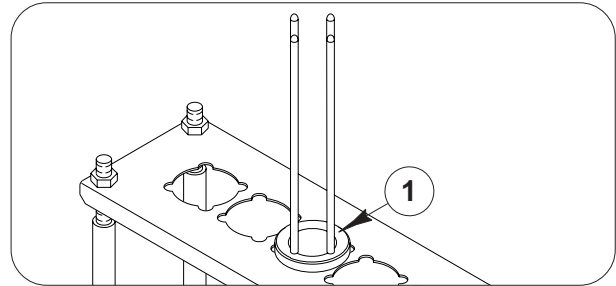

Fig. 3.2
- To change the production from “SCH 1226” and “SCH 1224” cups to cup “SCH 1225”, it is necessary to replace the storage areas (*Part 1 Fig.3.2*) of the cover loading station. For
See figure 3.2